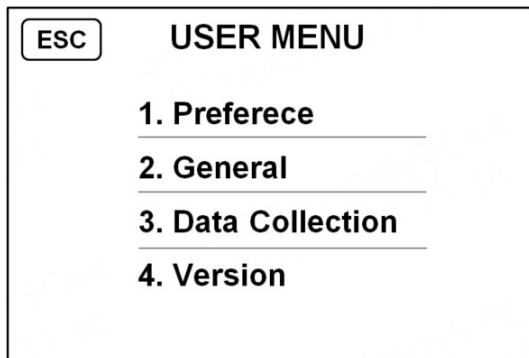
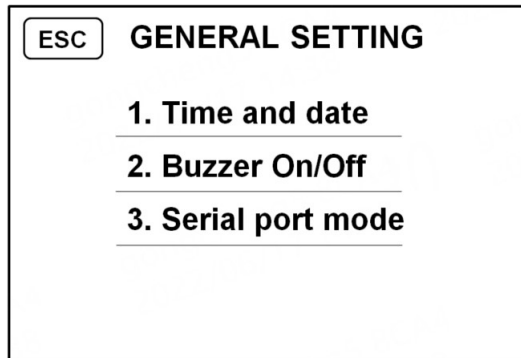
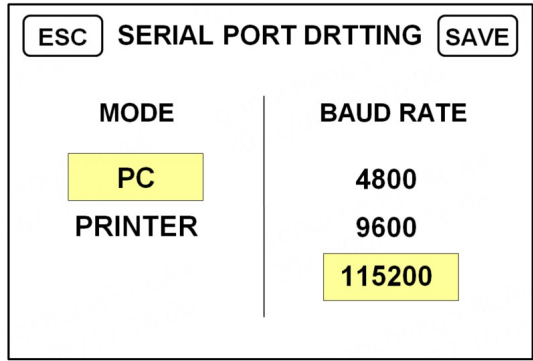

Figure 26
Figure 55
Figure 62
1) Press the **"MENU"** key to enter the USER MENU interface, as shown in Figure 26. Then touch **"2. General"** to enter the GENERAL SETTING interface, as shown in Figure 55:
2) In the interface of Figure 55, touch **"3. Serial port mode"** to enter the SERIAL PORT MODE interface, as shown in Figure 62: